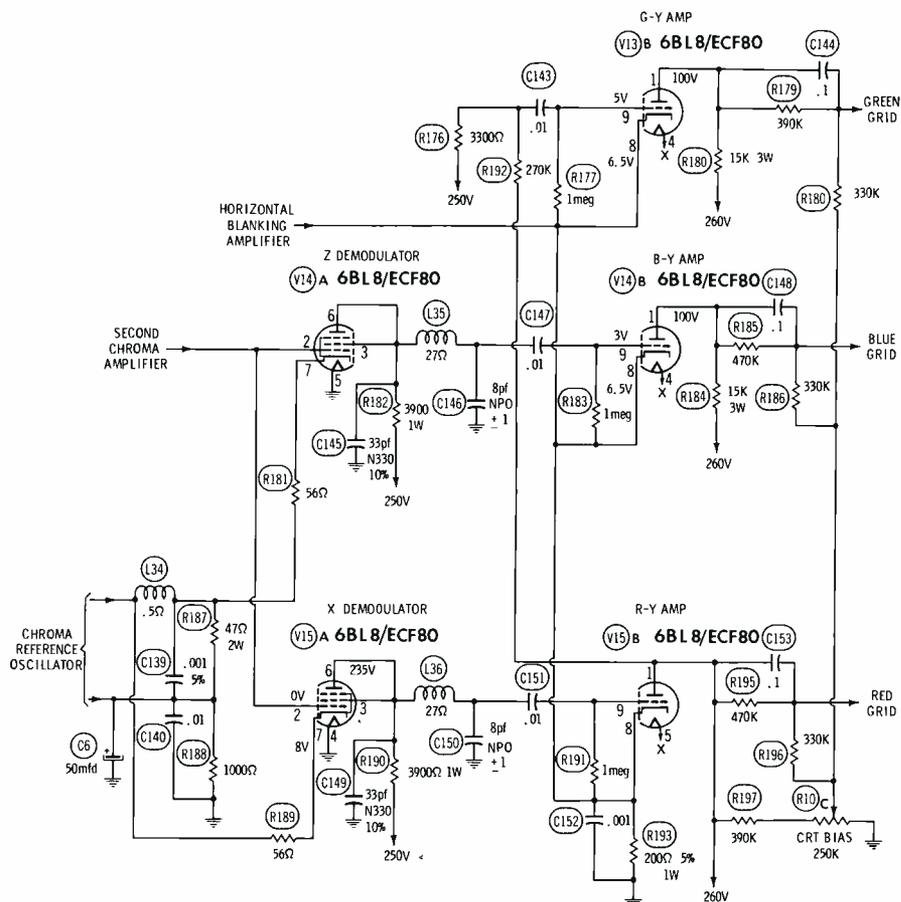
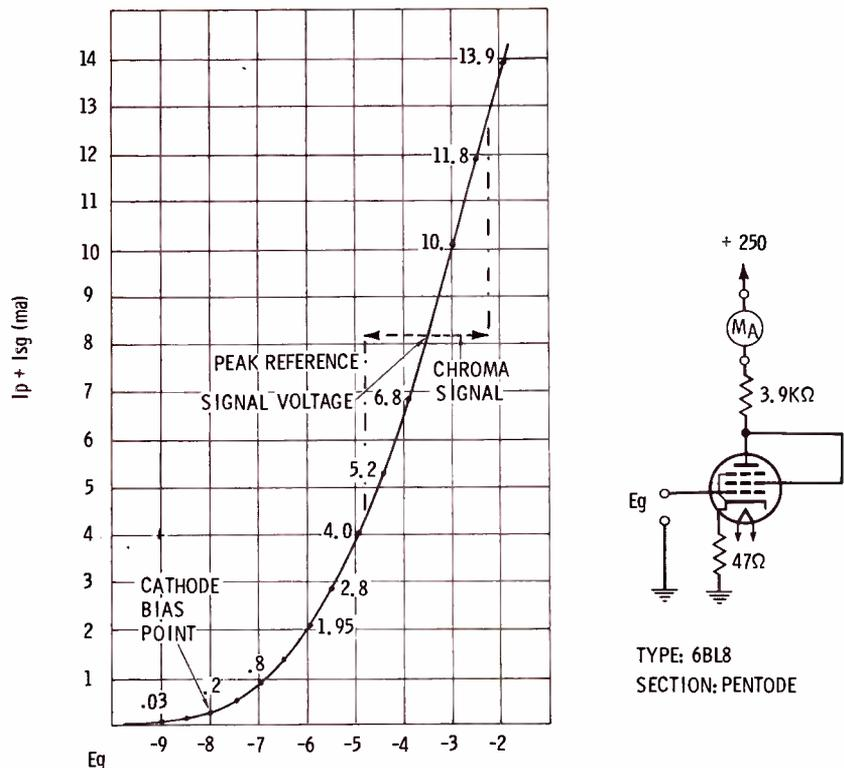

Fig. 4. Chroma demodulators and color-difference amplifiers of the Philco 17QT85A chassis.
Fig. 5. Characteristics of the 6BL8.
The demodulator and difference-amplifier circuits used in the Philco 17QT85A chassis are shown in Fig. 4. Although pentodes are used as demodulators, they are connected as triodes, the plates and screens being tied together. Fig. 5 is a plot of the combined plate and screen currents of the pentode section of a 6BL8 when it is connected as a triode. The circuit used in developing the curve was quite similar to the Z demodulator of Fig. 4 although bias was applied to the grid instead of the cathode. This has the effect of increasing the plate potential 8 volts, which effectively increases the steepness of the curve a slight amount.
In the Z demodulator (V14A of Fig. 4) the reference signal which drives the cathode has a p-p amplitude of 4.5 volts. In the absence of any other signal, the conduction of V14A and V15A produces a positive bias of 8 volts on each tube. Since this is the approximate cutoff bias of the tubes, V14A conducts
taneous grid-cathode voltage. This voltage is the sum of three potentials: (1) the cathode bias, (2) the instantaneous reference-signal voltage, and (3) the instantaneous chroma-signal voltage. For example, if the chroma and reference signals are 180° out of phase, the control grid is nominally 1.25 volts positive at the same instant that the cathode potential is + 3.5 volts (bias less the peak reference signal of 4.5 volts.) Thus, the total grid-cathode voltage is -2.25 volts. From Fig. 5, the tube current is about 12.7
In the example just cited, the instantaneous peak tube current reaches its maximum value. The minimum instantaneous peak current may be approximated by considering the effect on tube conduction of in-phase chroma and reference signals. In this case, the grid is maximum negative at the same instant that the cathode is maximum negative (minimum positive) and the instantaneous grid-cathode potential is -4.75 volts. Again referring to Fig. 5, the current is approximately 4.5 ma. A third condition which is easily described is the 90° or 270° phase relationship. In this case, the chroma signal is passing through zero when the reference signal is maximum negative, and the peak tube current is the same as if no chroma signal were applied, 8.2 ma.
From the above examples, we find that the maximum and minimum instantaneous peak tube currents are 12.7 and 4.5 ma, respectively. Since the plate load resistor is 3.9K ohms in the actual circuit of Fig. 4, the swing in plate voltage may be predicted to be 32 volts. Since the chroma reference-signal amplitude at the grid of V14A is 2.5 volts, p-p, during normal operation with a keyed-rainbow generator as a signal source, the predicted "gain" is 12.8. Actual observations showed this "gain" to be 10.
the circuit of Fig. 4, these intervals correspond to the negative half-cycles of the reference signal. The operation of the X demodulator of Fig. 4 is similar to that of the Z demodulator just described.
The operation of the color-difference amplifier shown in Fig. 4 is typical of most color-difference amplifiers used in conjunction with low-level, vacuum-tube demodulators. The difference signals from the demodulators are coupled through C147 and C151 to the B-Y and R-Y amplifiers, respectively. These signals are amplified and fed to the respective control grids of the CRT.
The means of deriving the G-Y signal is similar to the method described in the explanation of the General Electric circuit. In the circuit of Fig. 4, an additional portion of the R-Y signal is fed from the plate of V15B to the grid of V13B where it is added to the $-(R-Y)$ signal being fed to the cathode of V13B. A sample of the $-(B-Y)$ signal is also fed to the cathode of V13B. The total of these three signals produces a voltage at the plate of V13B which is $-.51(R-Y) - .19(B-Y)$, equal to G-Y.